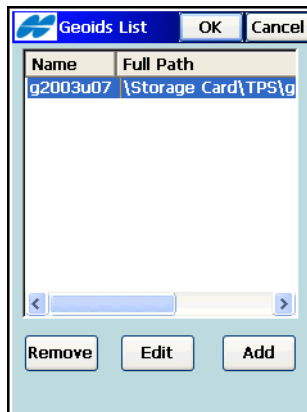

Figure 3-82. Geoid List
The **Geoids List** screen (Figure 3-82) contains a list of active *Geoids* available for selection.
- **OK** – returns to the *Geoid List* screen (Figure 3-82 on page 3-85).